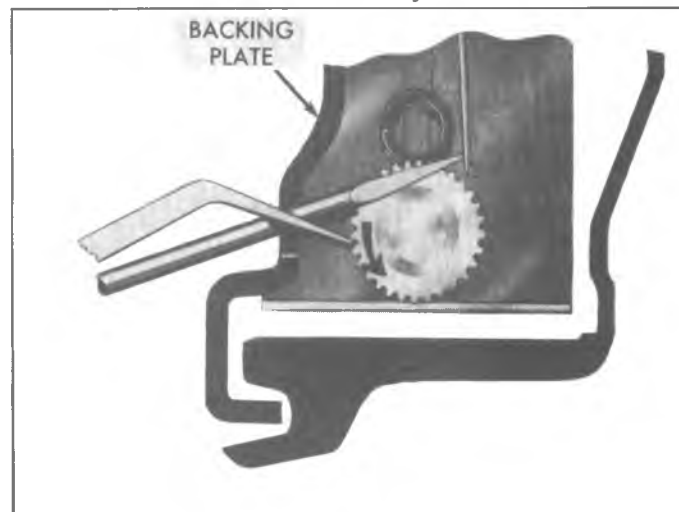

Fig. 44--Flange Plate Access Hole
**NOTE:** If brake drums are worn severely, it may be necessary to retract the adjusting screw. To gain access to the adjusting screw star wheel, knock out the lanced area in the brake drum or flange plate using a chisel or similar tool. Release the actuator from the star wheel with a small screwdriver on models with access hole in flange plate or with a wire hook on models with hole in drum. Back off the star wheel with a second screwdriver (as shown in Figures 44 and 45).